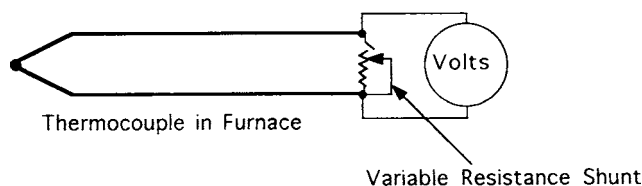

FIG. 1 An Alternative Method to Measure Loop Resistance
8.1.3 An alternative method which may be used to determine the loop resistance of a thermocouple at which is in service is to shunt the thermocouple at its connector pins with a variable resistor. Measure the thermocouple's open circuit Seebeck voltage between the connector pins with a high impedance voltmeter capable of measuring accurately in the microvolt range (see Fig. 1). The temperature of the thermocouple's measuring junction and the connector's pins must